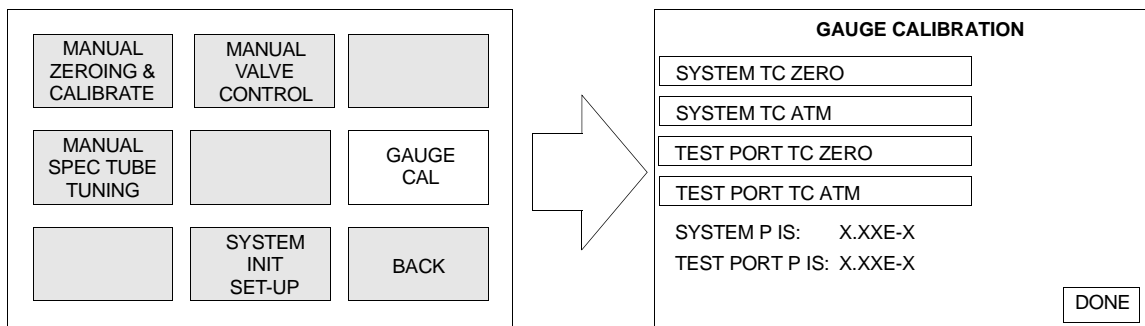

Figure 3-9 Gauge Calibration Screen
Touch the GAUGE CAL box to display the Gauge Calibration screen (Figure 3-9), which provides the ability to perform a calibration on either the system pressure thermocouple (button TC) or the test port thermocouple gauge.
6. Move to the GAUGE CALIBRATION screen (Figure 3-9 on page 3-9) if you are not already there.
3. Wait approximately ten seconds for the test port pressure to stabilize. Move to the Gauge Calibration screen (Figure 3-9 on page 3-9).